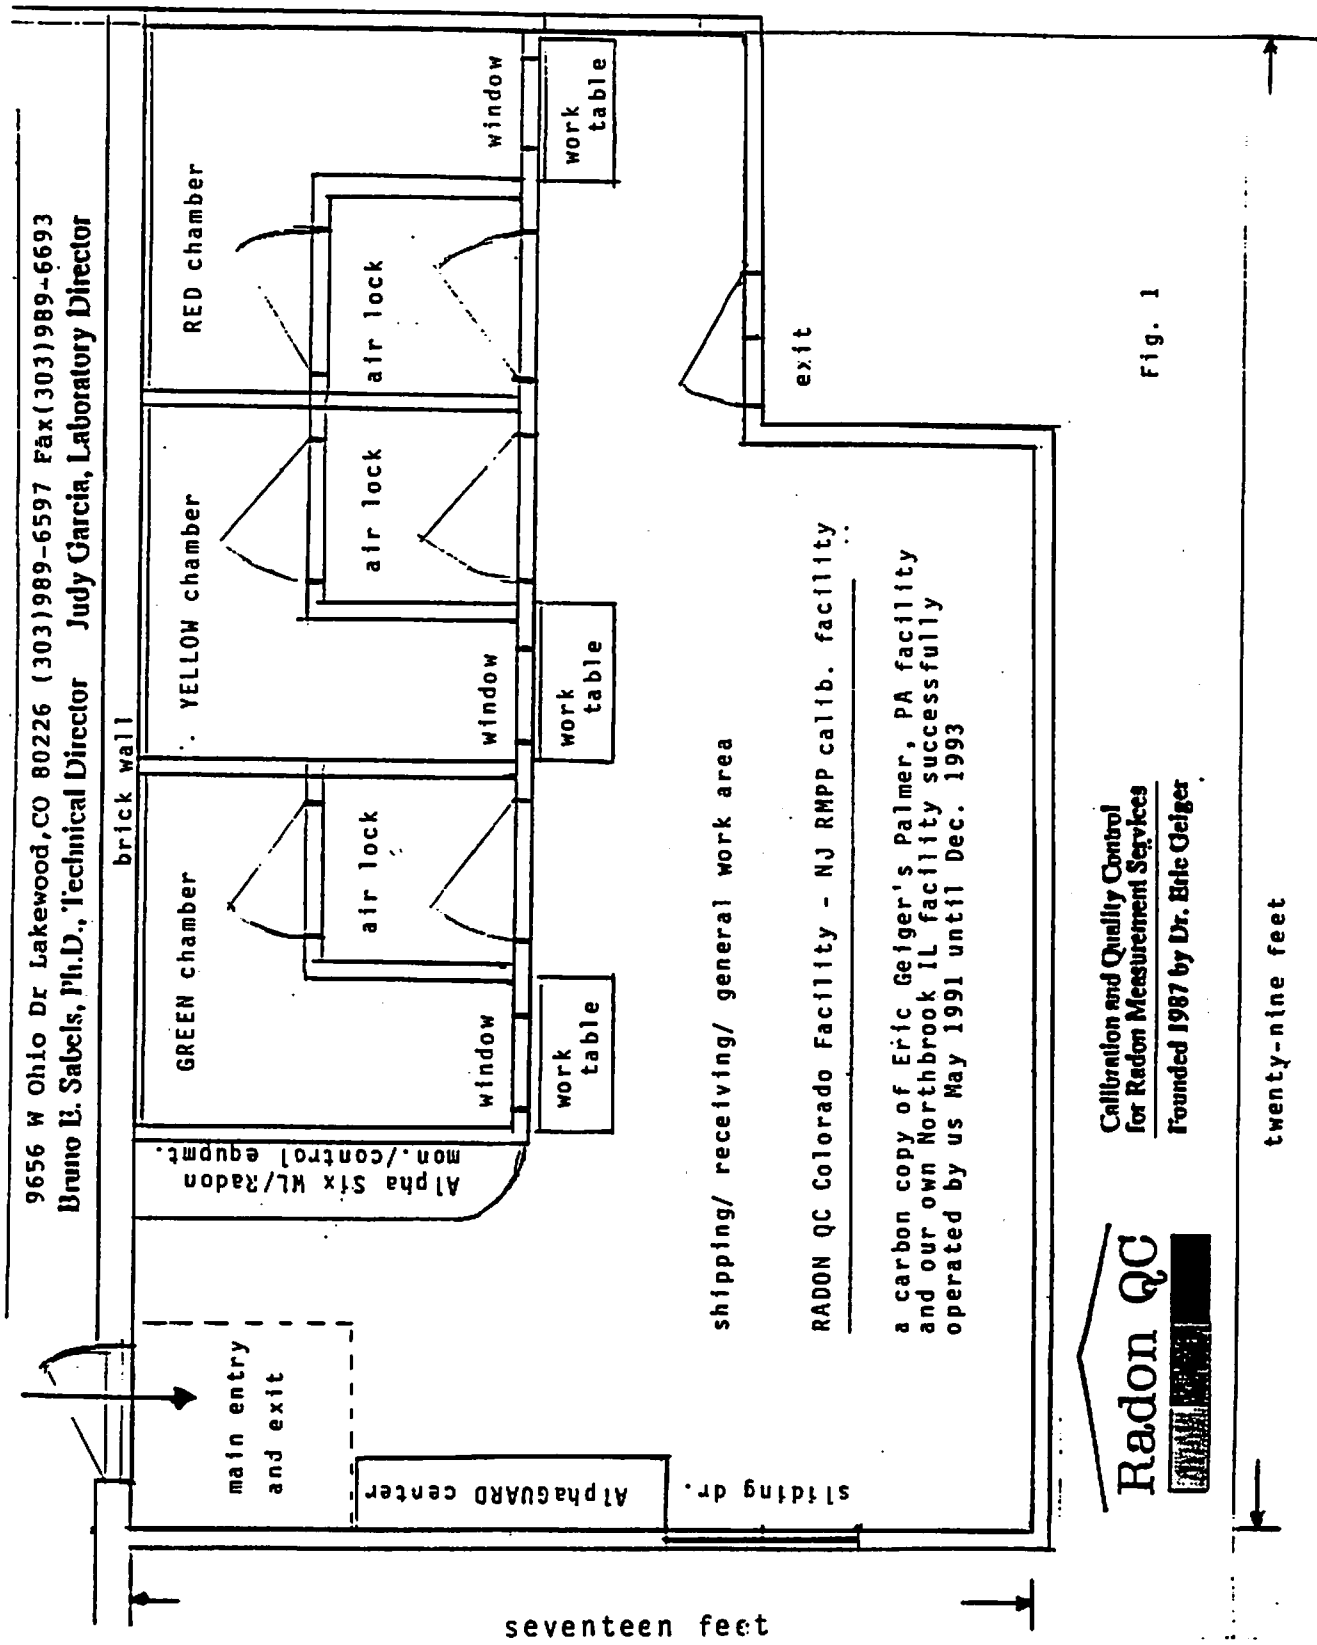

Fig. 1
**Lakewood, CO:** We fitted the same, basic floorplan of the chambers ontop of a flagstone patio in a large greenhouse in our home (Figure 1). While we were tenants in Northbrook, we now experience the freedom of property ownership. With virtually no overhead, we could adjust our price list downward! In addition, all of our time belongs to the chambers, as there are no other demands on our time as they were in Illinois. Therefore, our turn-around and other service parameters became even more unbeatable. In dealing with a variety of radon interests, we are noticing the great advantage of our familiarity with most all of the aspects of passive sensor manufacture, processing and analysis (including automation and computerization), from alpha track to liquid scintillation to charcoal monitors and their many adaptations to special applications.